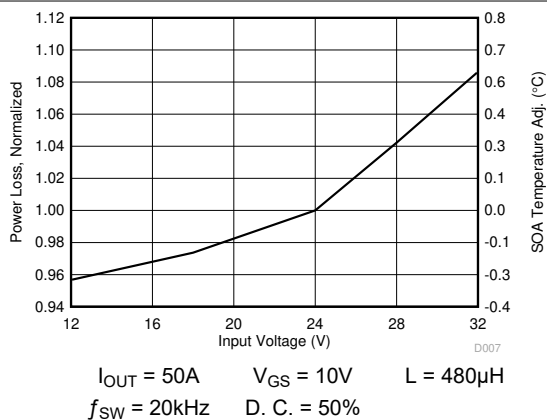

Figure 4-5. Normalized Power Loss vs Input Voltage
- Normalized power loss for input voltage \approx 1.09 (Figure 4-5)
- SOA adjustment for input voltage \approx 0.6°C (Figure 4-5)